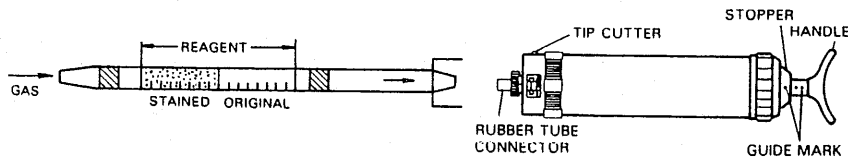

Fig. 1
1. Break both ends of a new detector tube by using the tip cutter, and insert the tube end securely according to the direction of printed arrow mark into the rubber tube connector as shown in Fig. 1.